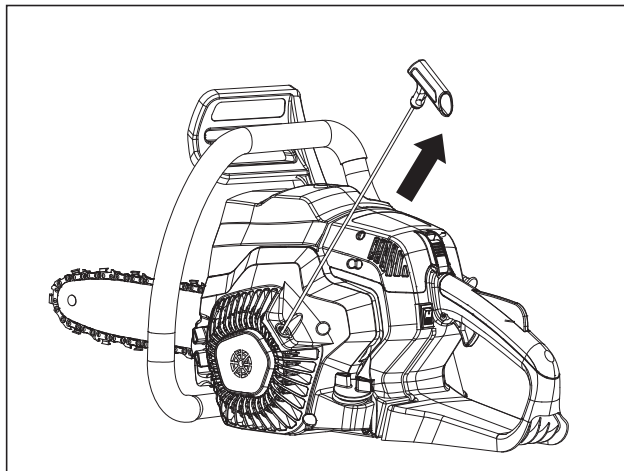

Fig. 8
4. Hold the product firmly with left hand on the front handle and right foot onto the rear hand safeguard without touching the throttle trigger, pull the starter grip and rope until the engine attempts to start 5 times (Fig.8).